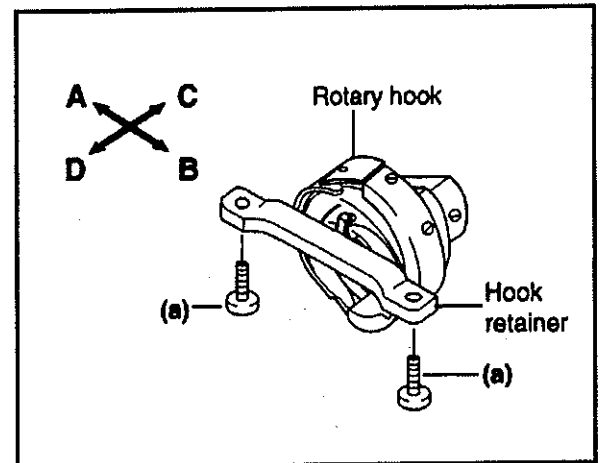

FIG.2
- (3) Move the hook retainer fully in direction A or B to adjust the offset between the centers of the needle and the protrusion on the hook retainer (Fig.2).
- (4) Retighten the two retaining screws (a) (Fig.2).
- (5) Attach the needle plate and the work table.